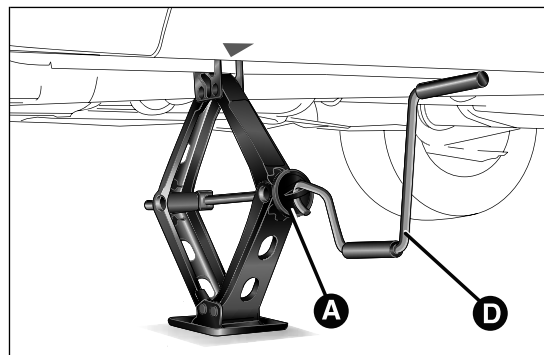
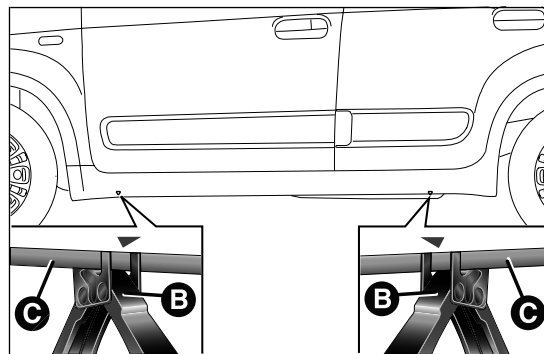

fig. 111
fig. 112
- ☐ operate the device A fig. 111 to extend the jack until the top of the jack B fig. 112 fits correctly into the side member C (next to the mark ∇ on the side member);
- ☐ fit handle D fig. 111 into the housing in device A, operate the jack and raise the car until the wheel is a few centimetres from the ground;